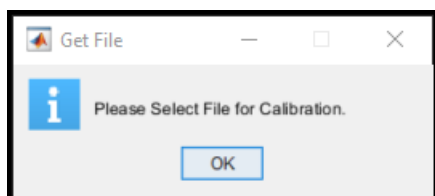

Figure 9: Prompt for importing calibration file.
- When the switch is toggle on, user will be promoted to import a calibration .txt file after selecting files for plotting. (Fig. 9)